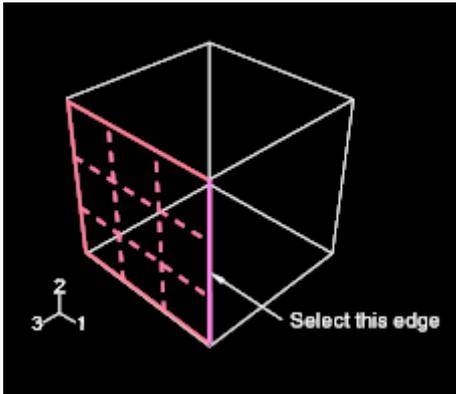

Figure C-4 Select the gridded face to define the sketching plane. Select the indicated edge to position the part correctly in the Sketcher.
2. Select the face at the front of the cube to define the sketching plane, as shown in Figure C-4.
Select an edge that will appear vertical and on the right side of the sketch, as shown in Figure C-4.